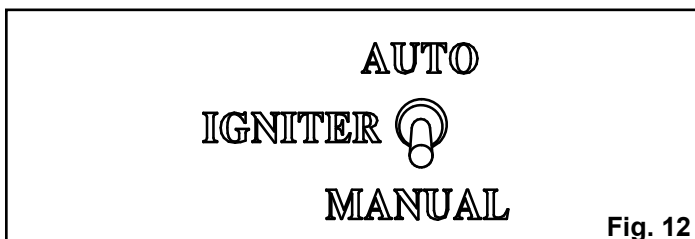

Fig. 12
6. Flip the Igniter Switch Down into the "MANUAL-LIGHT" position. See Fig. 12.